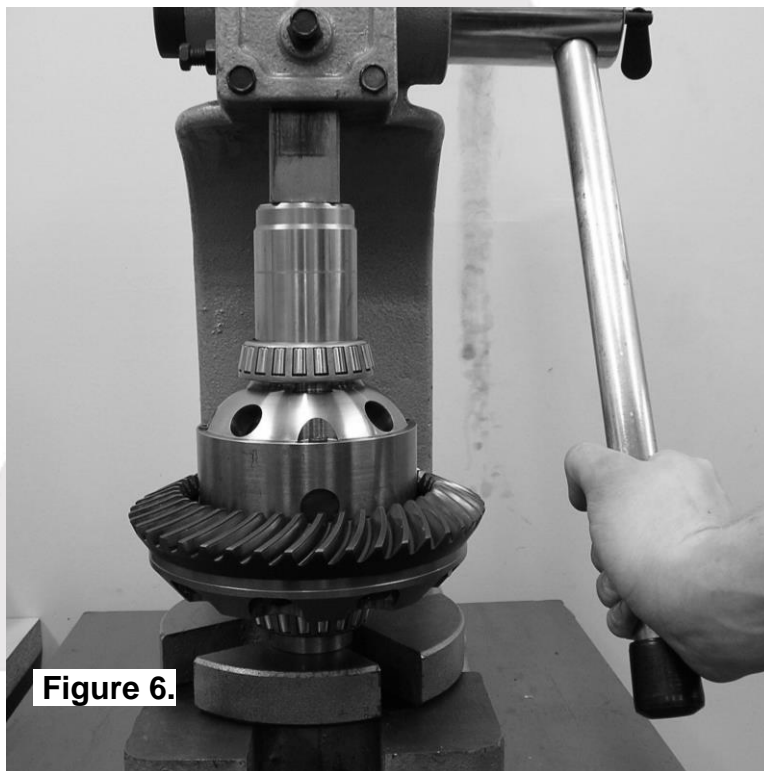

Figure 6.
- Press one of the tapered roller bearing cones onto one of the bearing journals of the *Air Locker* until the bearing seats firmly against the bearing journal shoulder (Fig. 6.).